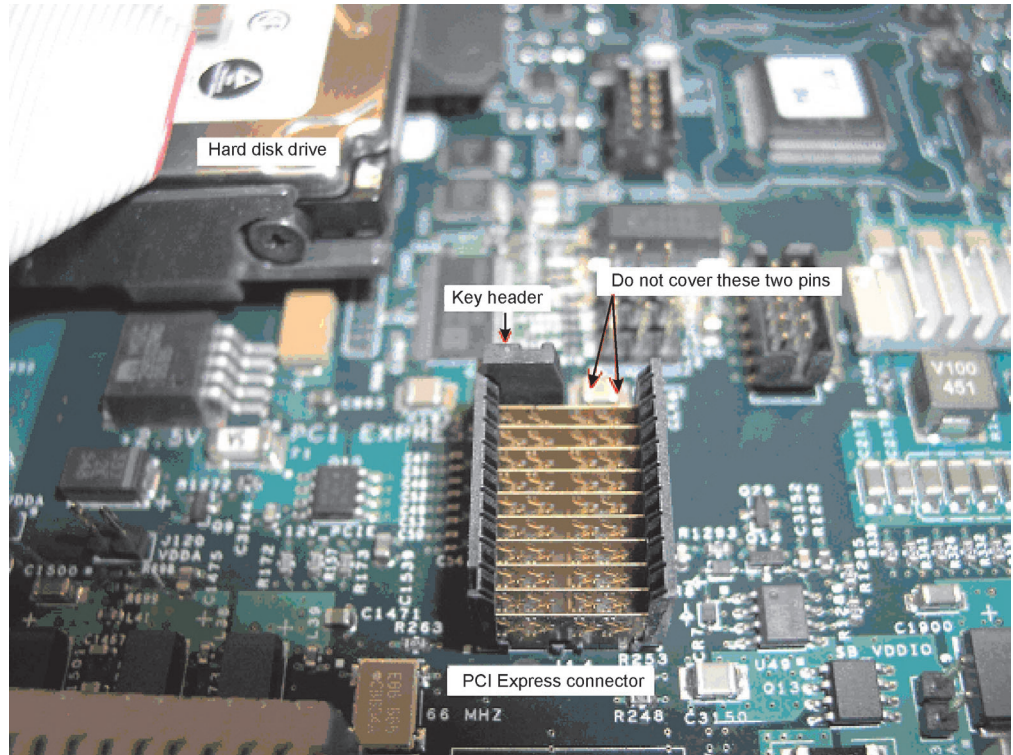

Figure 13. Where to place the key header on the BladeCenter QS20 board
6. Place the first key header on the respective BladeCenter QS20's PCI Express connector so that it covers the two contacts closest to the hard disk drive, see Figure 13 on page 31.